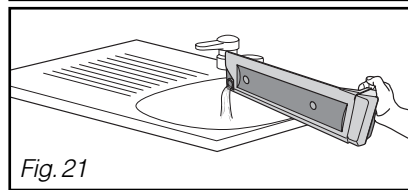

Fig. 21
– Empty the tank or recover the condensation container (Fig. 21).